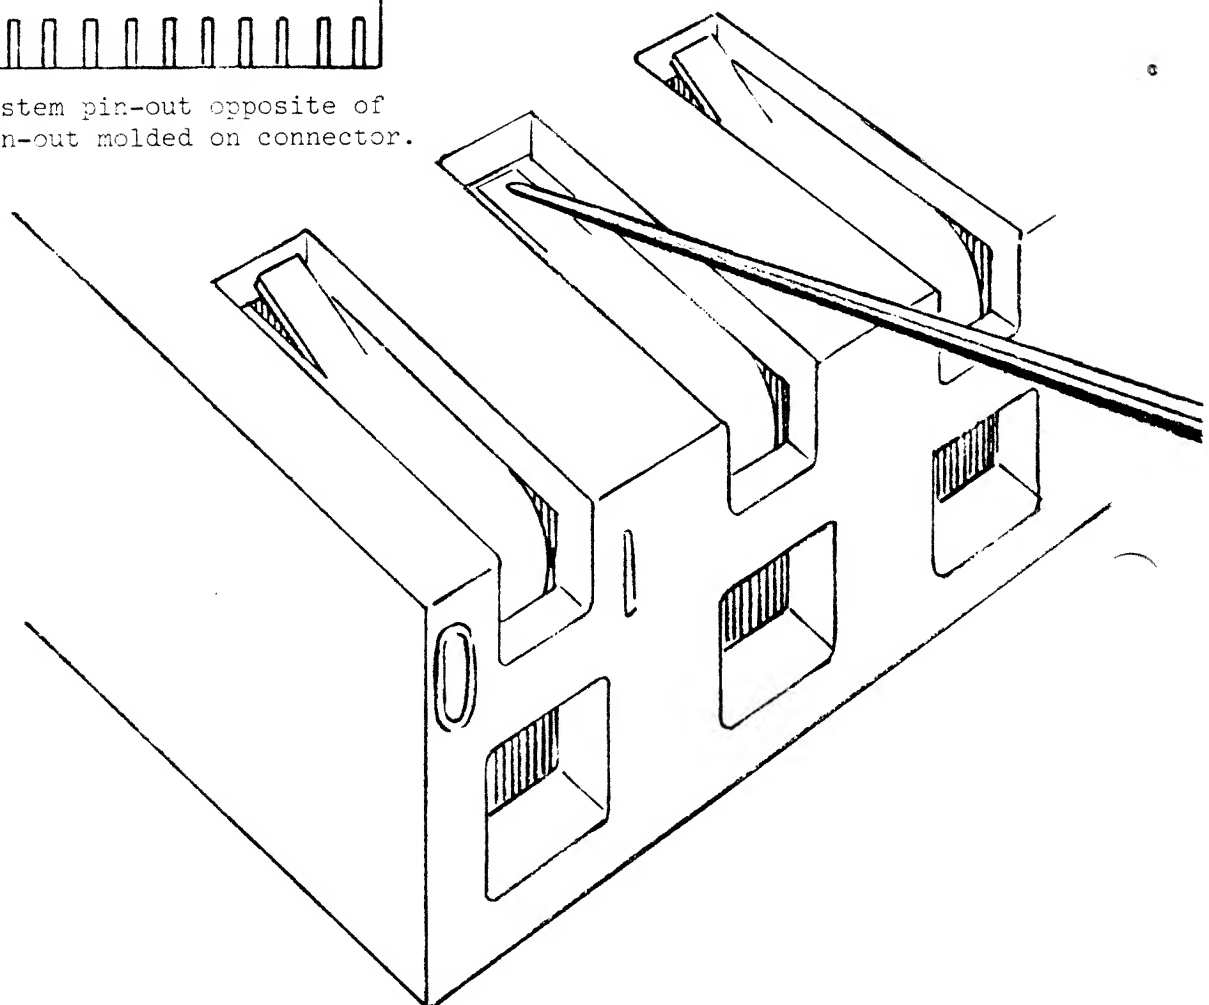

FIGURE 6
- 8) Route the control panel wiring harness. Locate the two connectors P5 and J1 at the end of the control panel harness. Plug connector P5 into connector P5 located along the top edge of the main logic board. Similarly plug J1 into J1 of the A/D converter board. Plug the remaining two wires (white and violet) of the control panel harness into connector P4 of the main board as shown in Figure 6.